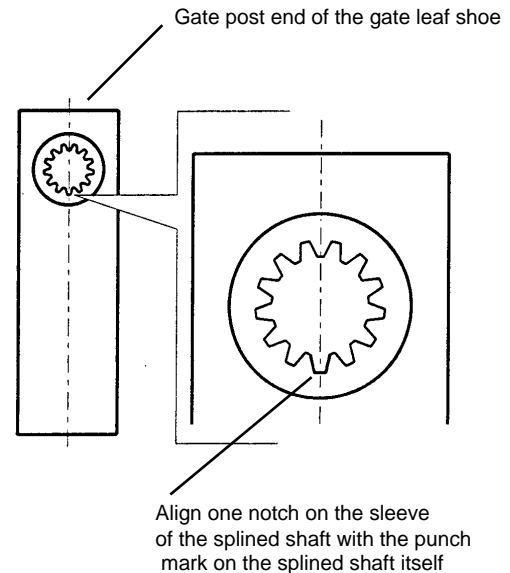

Figure 11. Center one notch along the centerline of the gate leaf shoe and place over the punch mark on the splined shaft
2. Center one notch on the sleeve along the centerline of the gate leaf (see Figure 11). You can then align this centered notch with the punch mark on the splined shaft of the pinion as a reference in case you ever need to remove the shoe later.